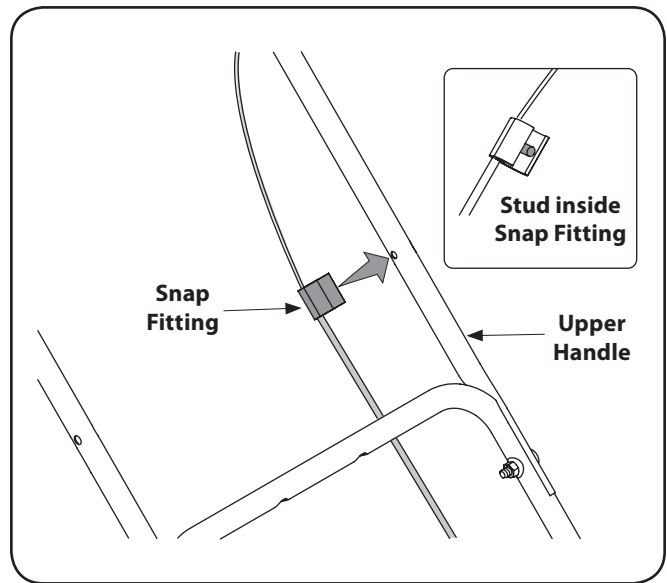
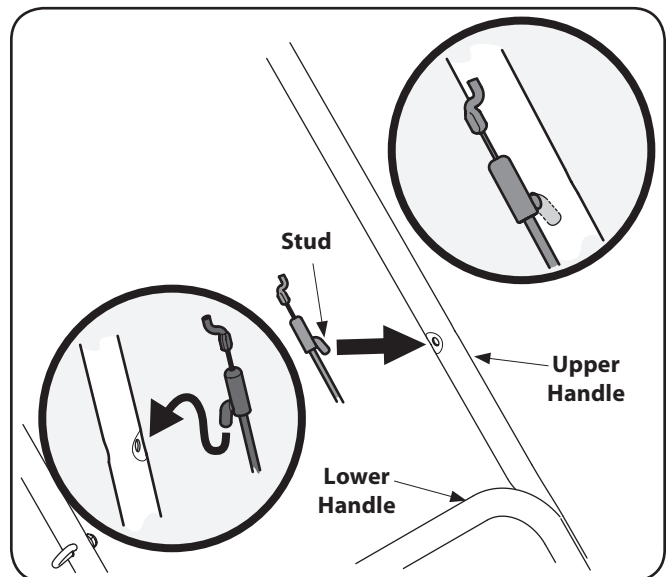

Figure 3-7
Figure 3-8
NOTE: Your mower has been supplied with one of two types of control cables - one that is secured with a snap fitting as shown in Figure 3-7 or one that is secured with a stud as shown in Fig.3-8. Make note of the cable supplied with your mower and follow the appropriate steps below.
1. Press the stud found inside the snap fitting into the hole found on the left side of the upper handle, as shown in Figure 3-7.
1. Press the stud found on the cable fitting into the hole found on the left side of the upper handle, as shown in the Figure 3-8 insets.